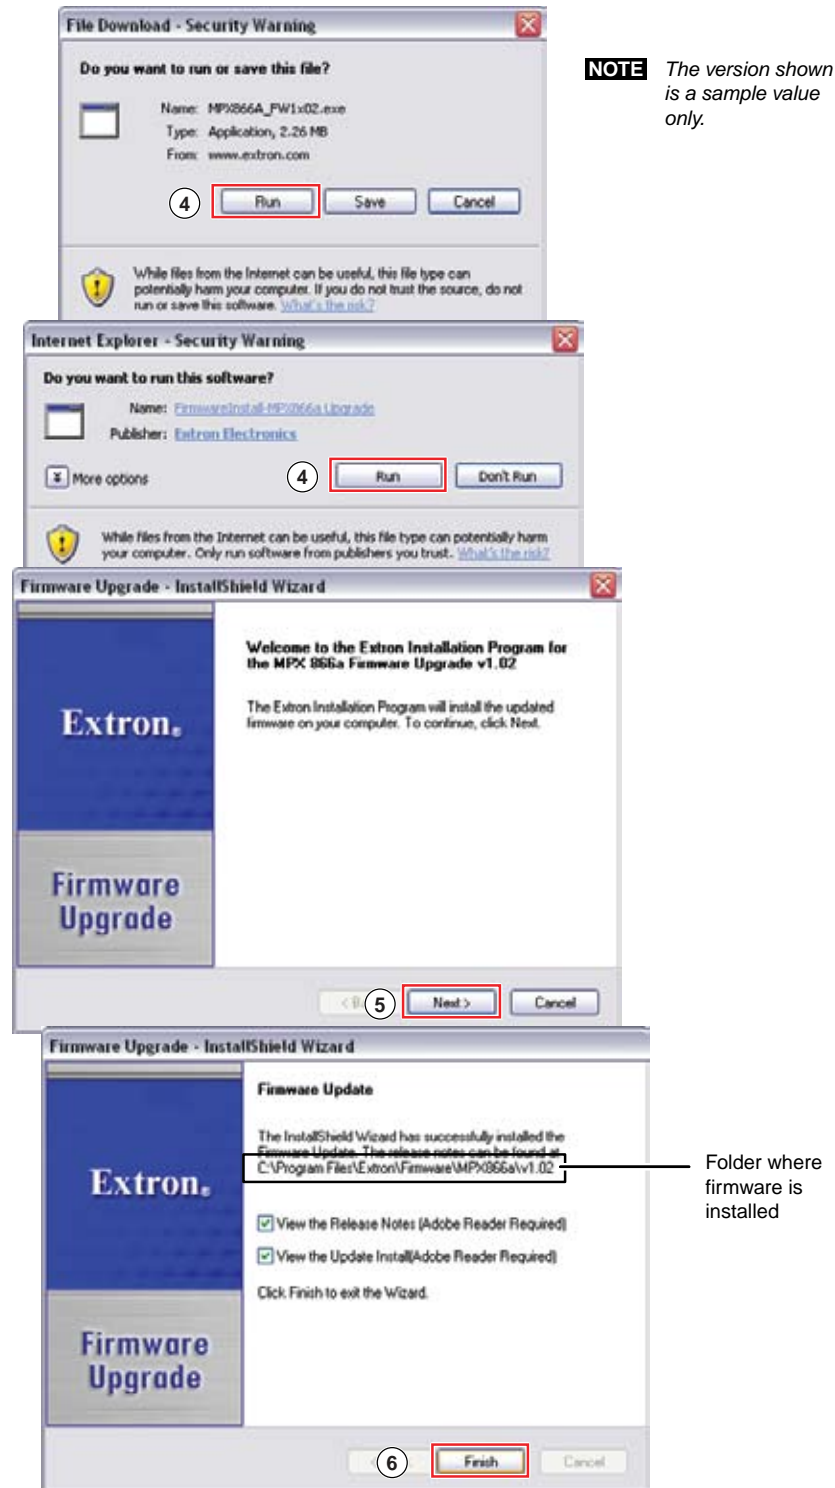

Figure 6-10 — Downloading firmware upgrade files
4. Click **Run** twice (figure 6-10). The PC downloads the firmware update from the Extron Web site and starts the Extron Installation Program to extract the firmware file.